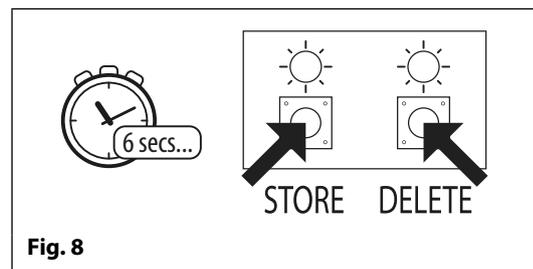

Fig. 8
1. Press and hold down both the store and delete buttons for approximately 6 seconds until both the green and red LED's switch **OFF**, see **Fig.8**;